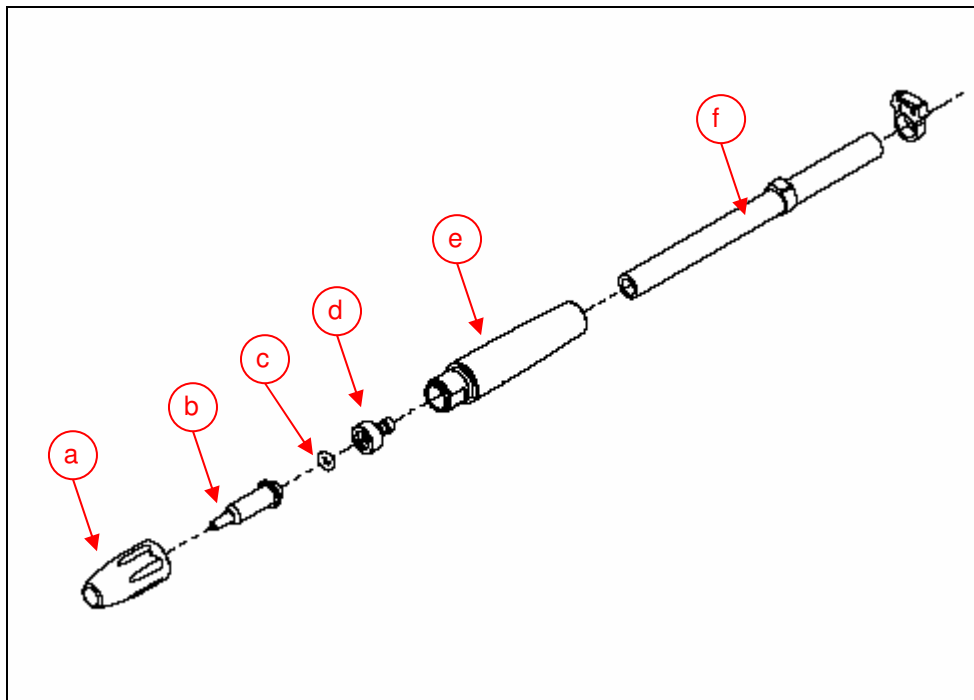

Fig. 11 – Blasting hose
- To change the blasting nozzle unscrew the cap nut (fig 11 a).
- Take care that the O-Ring (fig 11 c) is at the correct position during the installation of the new nozzle.
- In order to change the hose, push the handle (fig. 11 e) backwards a few cm. and pull out the hose stem (fig. 11 d).